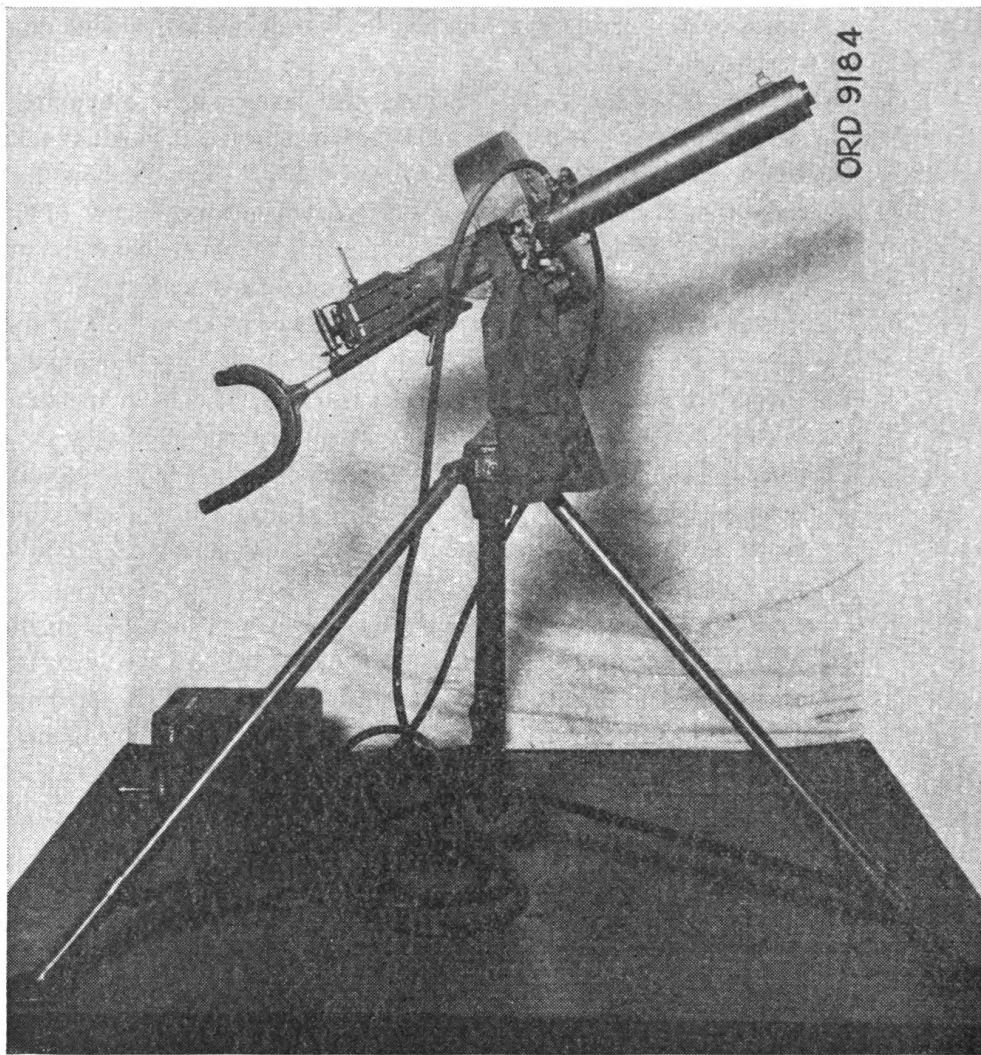

FIGURE 12.—Antiaircraft machine-gun tripod mount, M1.
8. Description of antiaircraft machine-gun tripod mount, M1 (fig. 12).—The mount is of the tripod type in which the cradle and yoke are supported on a center support so that the gun can be freely moved by hand in azimuth through 360°. All positions of elevation are allowed from approximately 10° depression to 80° elevation.